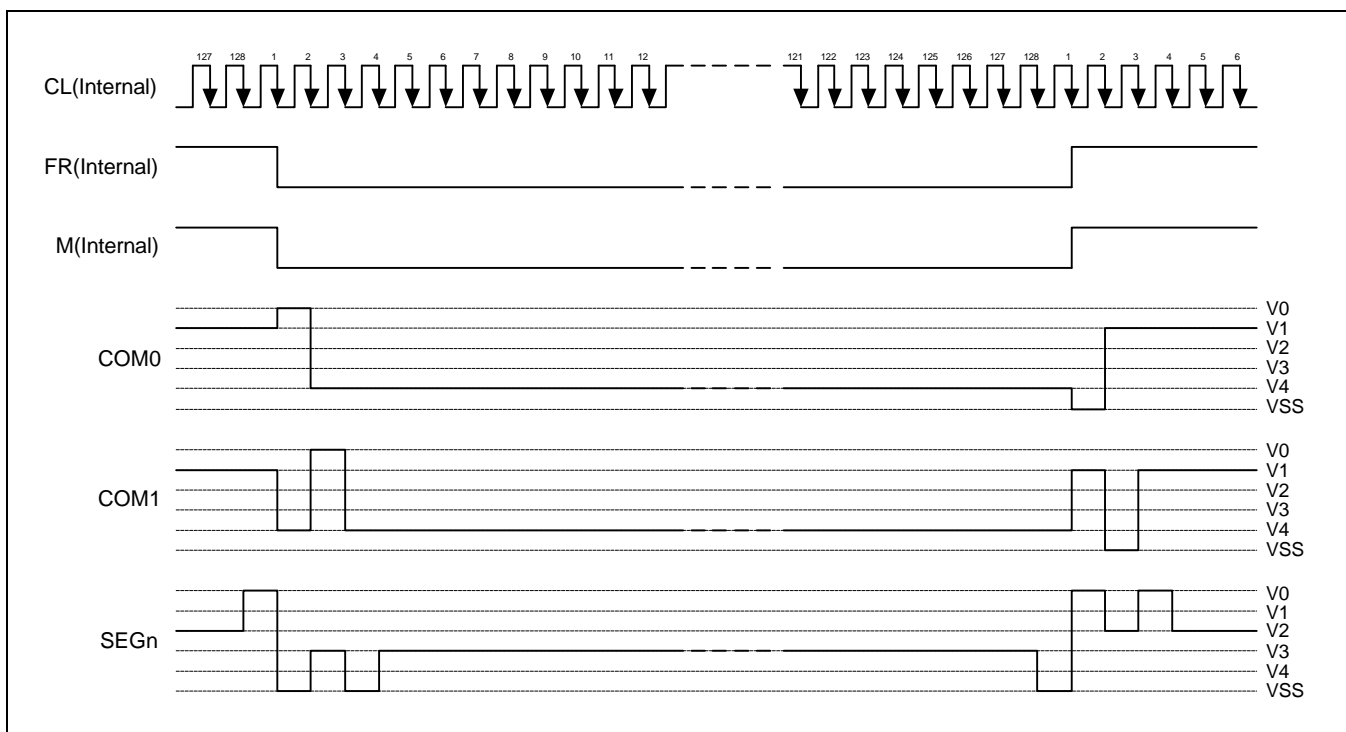

Figure 9. 2-frame AC Driving Waveform (Duty Ratio = 1/128)
This circuit generates some signals to be used for displaying LCD. The display clock, CL(internal), generated by oscillation clock, generates the clock for the line counter and the signal for the display data latch. The line address of on-chip RAM is generated in synchronization with the display clock and the display data latch circuit latches the 128-bit display data in synchronization with the display clock. The display data, which is read to the LCD driver, is completely independent of the access to the display data RAM from the microprocessor. The display clock generates an LCD AC signal (M) which enables the LCD driver to make a AC drive waveform, and also generates an internal common timing signal and start signal to the common driver. The frame signal or the line signal changes the M by setting internal instruction. Driving waveform and internal timing signal are shown in Figure 9.